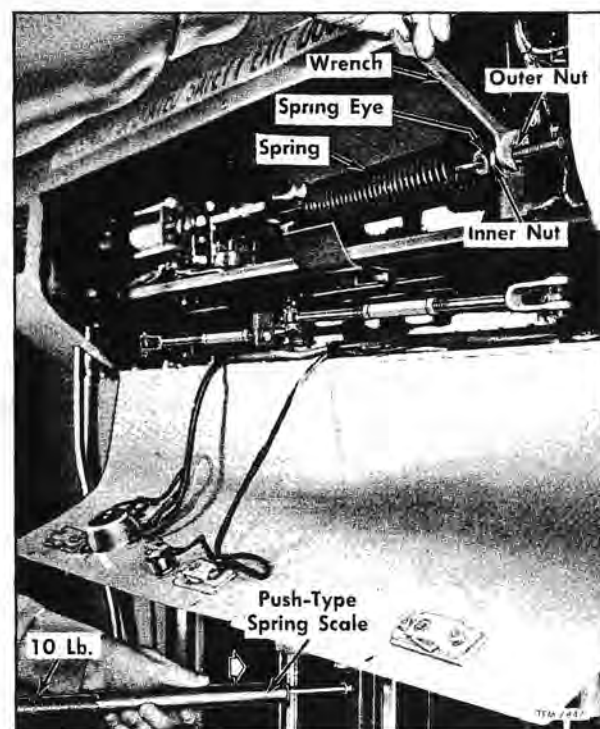

Figure 10—Adjusting Push-Type Rear Door Return Spring Tension
7. Carefully hook up the door return spring (8).
8. Check and if necessary, adjust the tension of door return spring (fig. 10). Adjustment is obtained by repositioning two eye bolt nuts (10) at spring anchor bracket. Proper spring tension exists when a push-type spring scale applied at the inside front face of the door panel indicates no more than 10 pounds to start doors moving away from completely closed position.